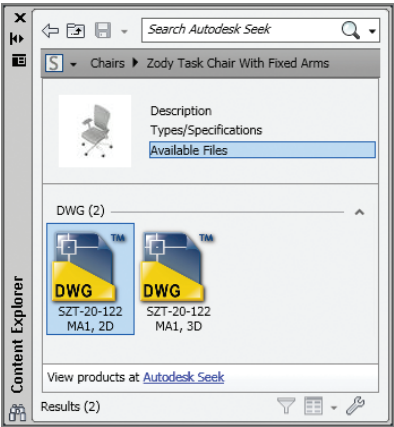

FIGURE 9.18 Selecting a specific file to download
7. Double-click the selected item. The page that appears in the Content Explorer lists the available files. Right-click the first icon—**SZT-20-122 MA1, 2D**—for the two-dimensional representation of this chair (see Figure 9.18) and choose **Insert**. The cursor displays a thumbnail image of the file with a progress bar.